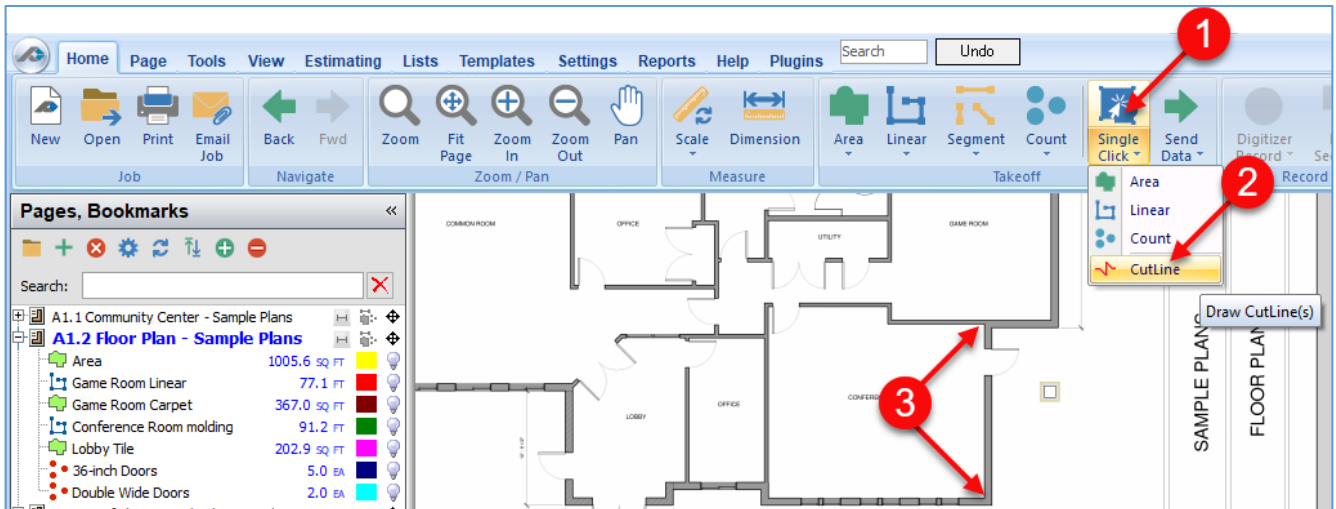

Figure 30-A
1. Click on the **Single Click** button on the **Home** tab ribbon-bar menu (Fig. 30-A).
4. A red cut-line appears (Fig. 30-B).